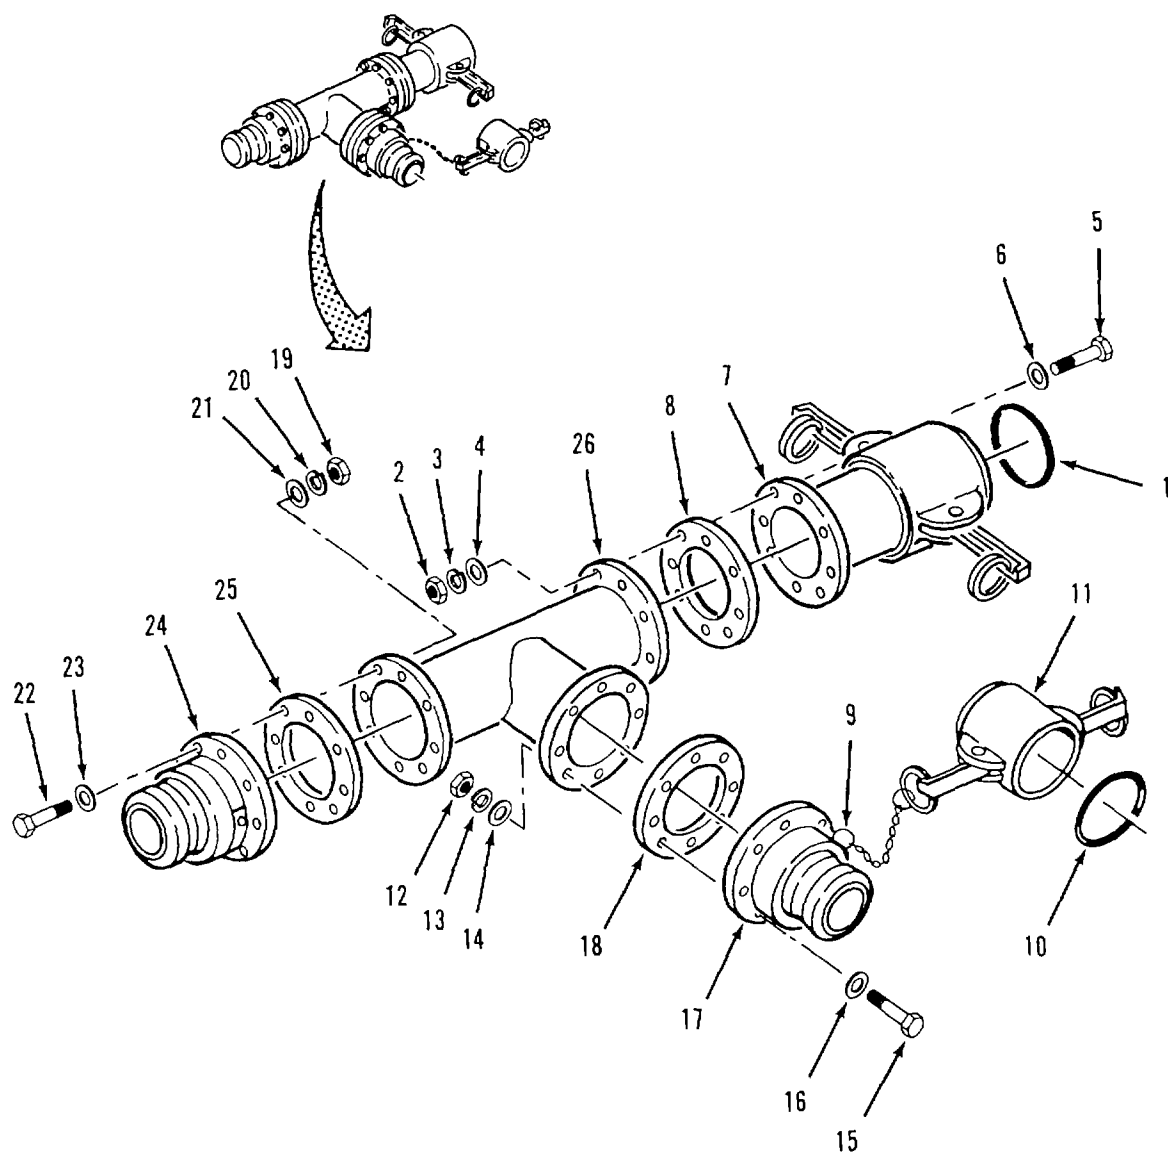

Figure 4-22. Tee Assembly (9112-Y2) Assembly
e. Assembly. Refer to figure 4-22.
- (1) Position gasket (25) and male coupling (24) on tee (26).
- (2) Install eight flat washers (23), screws (22), flat washers (21), lockwashers (20) and nuts (19).
- (3) Position gasket (18) and male coupling (17) on tee (26).
- (4) Install eight flat washers (16), screws (15), flat washers (14), lockwashers (13) and nuts (12).
- (5) Connect ring (9) and attached cap (11) to male coupling (17).